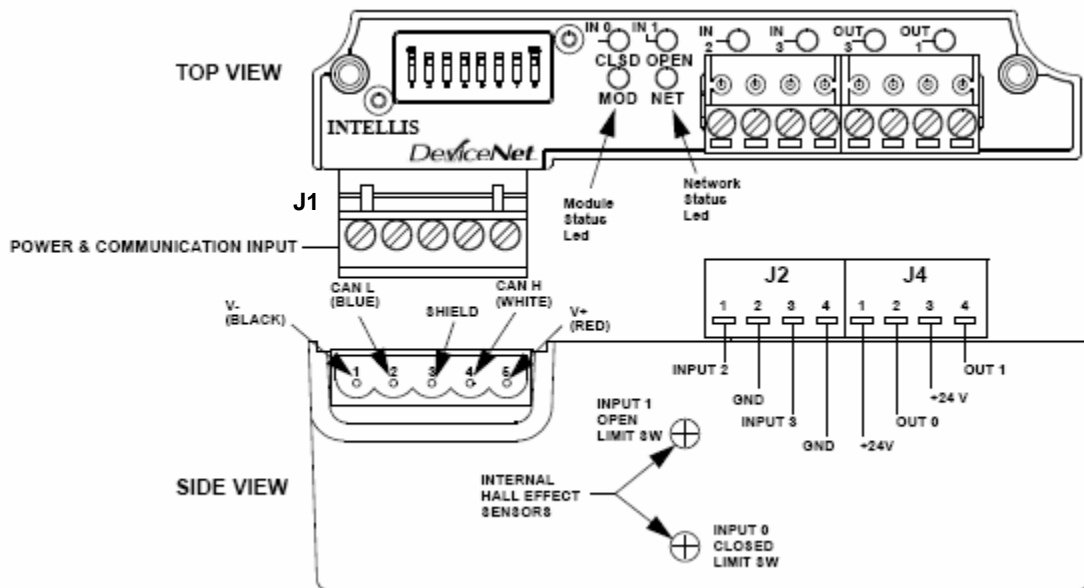

Figure 1- EL-40092
For steps 1-8 refer to Figures 1 and 5.
1. Refer to Figure 1 and note the approximate locations of the Open and Close targets on the DPAC module.